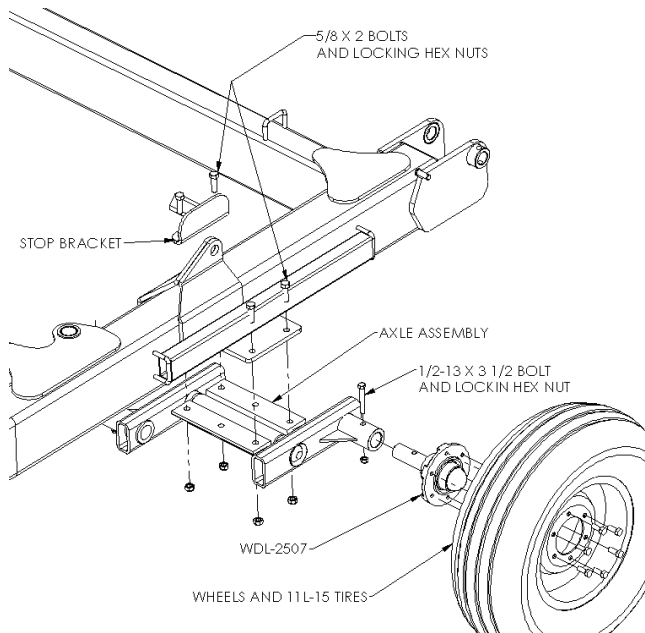
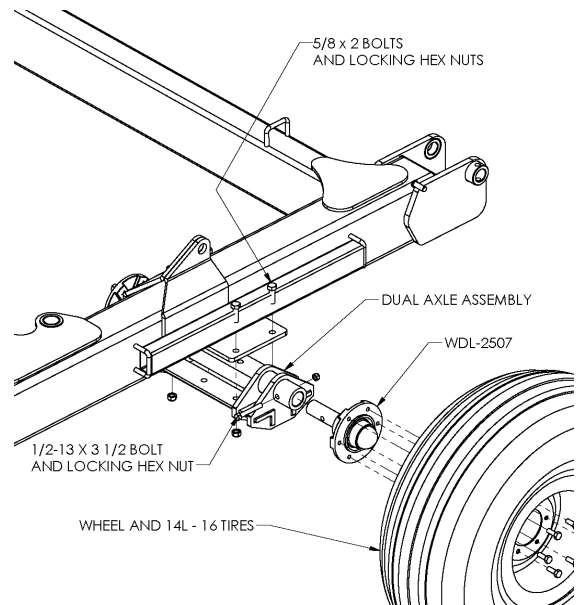

Figure 1A
Figure 1B
1. Refer to Figures 1A and 1B. Figure 1A shows walking axle with 11L - 15 tires and Figure 1B shows dual axle with 14L - 16 tires. Bolt the main frame axle assemblies to the frame. Use 5/8" x 2" bolts and locking hex nuts.